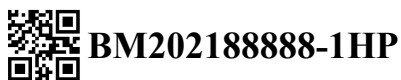

Figure 5-21 Data Printed by the Printing System
- (5) Set the Correlation (Figure 5-21) according to "Data Parser - Data Distribution" (Figure 5-18).
- (6) Click the "Apply" button to complete the creation of the Pathology ID Parse Config.
- (7) Select "Parse Encoding" (The system uses UTF-8 by default).
- (8) Click the "Save" button.